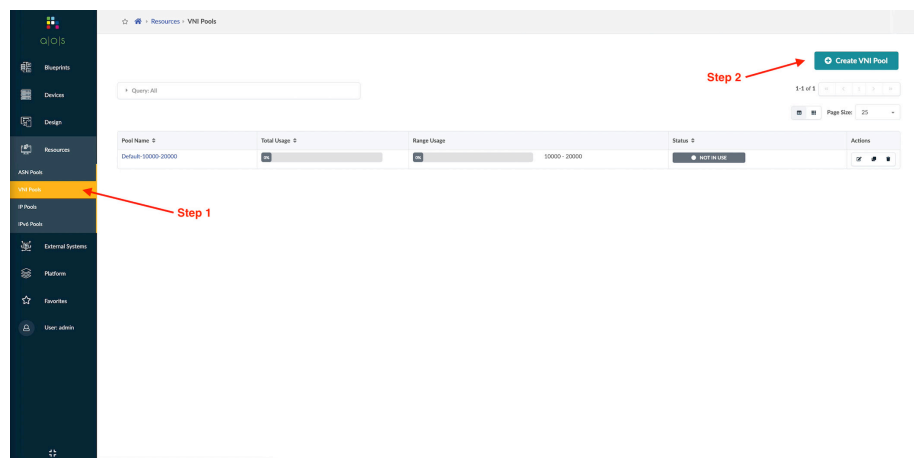

Figure 2.24 Creating VNI Resource Pool
Step 1: Go to Resources > VNI Pools. See Figure 2.24.